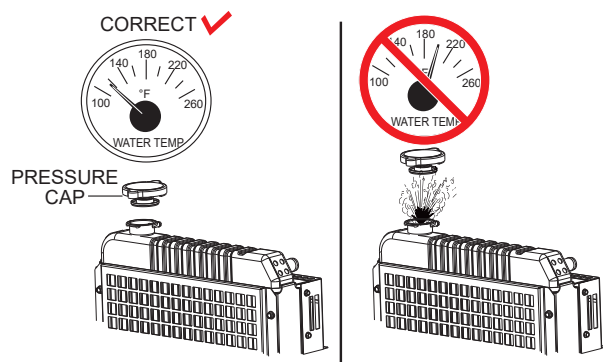

Figure 69. Radiator Pressure Cap Removal
1. Remove the radiator pressure cap (Figure 69) only if the coolant temperature is below 120°F (50°C).